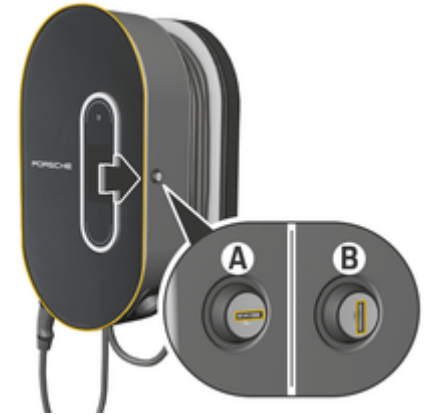

Fig. 18 Charging dock
- ▶ Turn the lock into position **A** (Fig. 18).
- ▶ Press the lock into position **B** (Fig. 18).